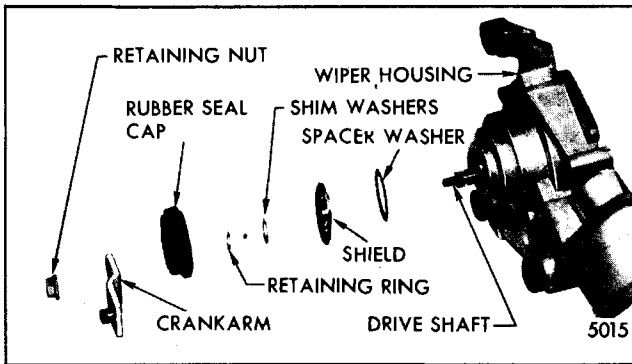

Fig. 2-40-Crank Arm Components-Exploded View
seal cap, retaining ring, shim washers, shield and spacer washer in the order indicated (Fig. 2-40).
7. Reassemble the outer spacer washer, shield, shim washers, as required to obtain .004" (plus or minus .002") end play, snap ring and rubber seal cap in the order indicated. Refer to Fig. 2-40.
1. Add or remove shim washers as required to obtain .004" (plus or minus .002) end play (Fig. 2-40).